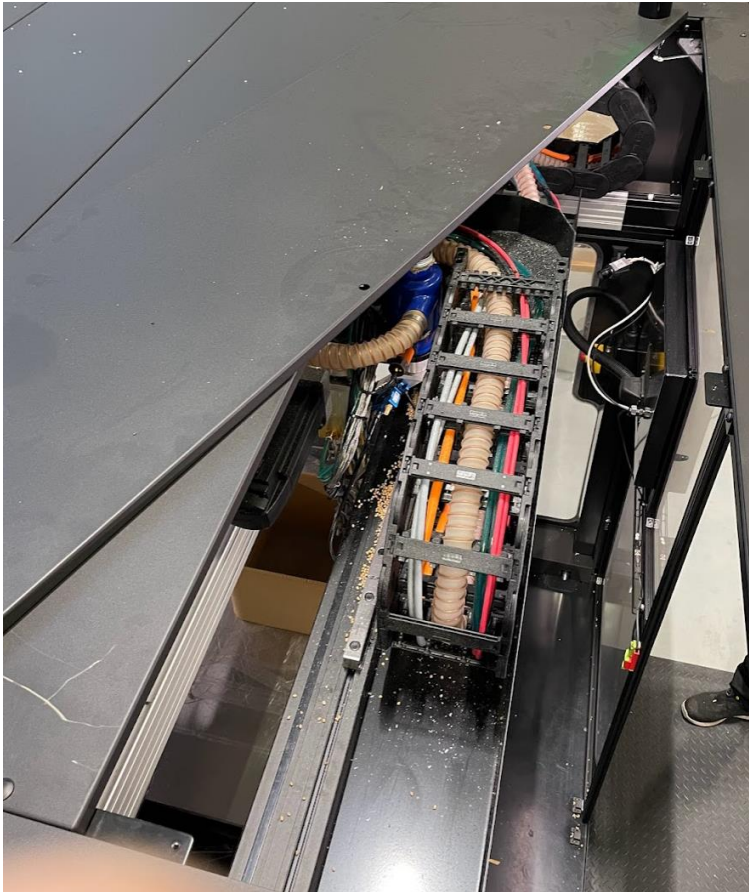

Figure 40a
2. Remove roofsheet. See fig 40a.